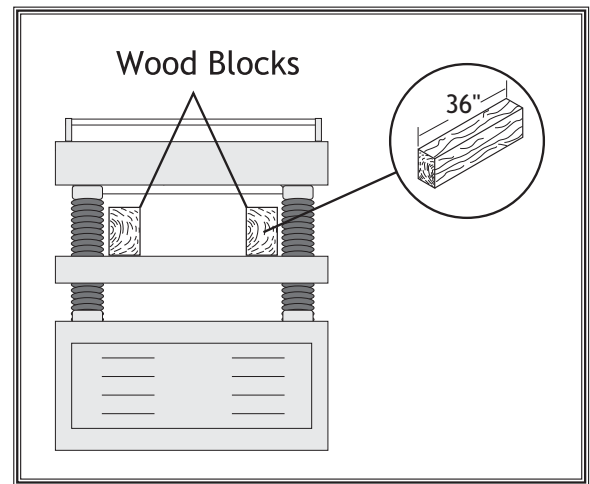

Figure 30. Wood blocks on table.
4. Place one wood block along the left side of the table, and place the other wood block along the right side of the table, as illustrated in **Figure 30**.